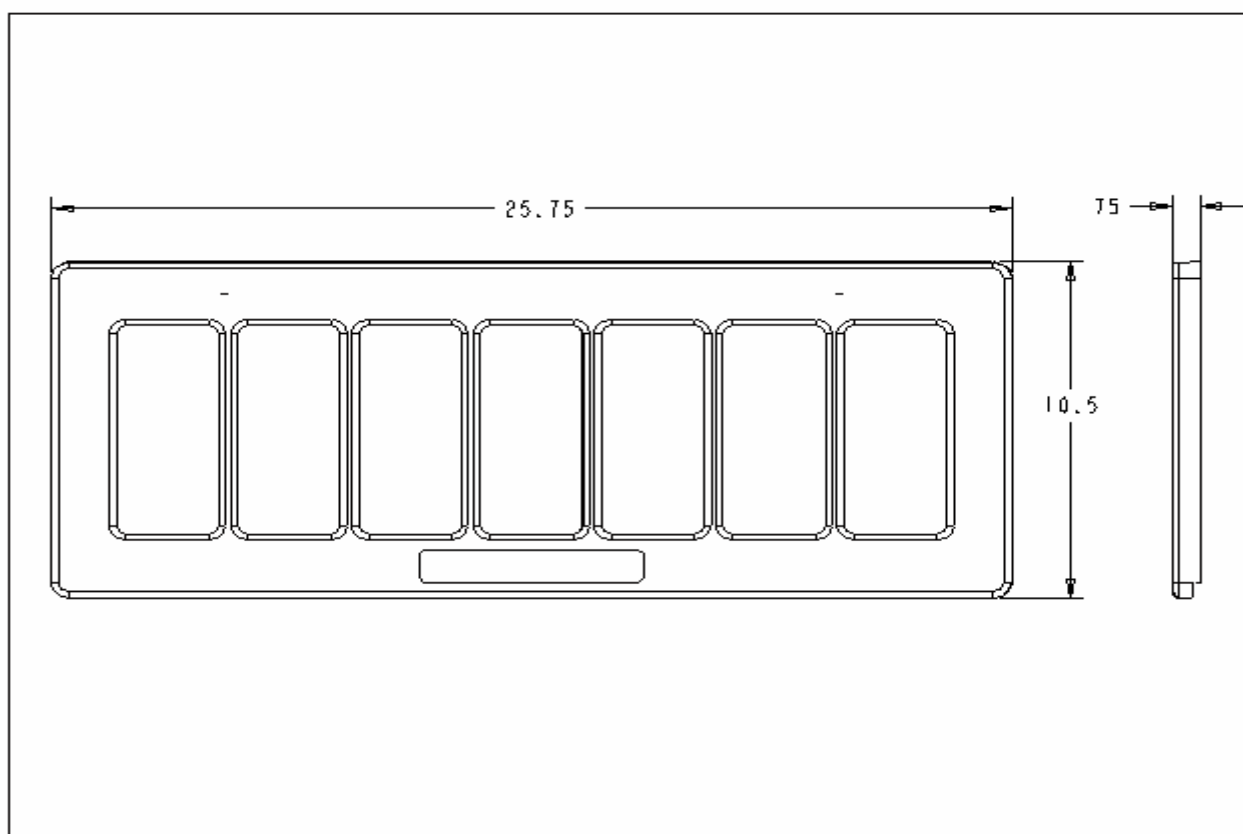

**Figure 5, 6-Module Back Box**
3.1.1.2 The second back box (Figure 5) is 23.875 inches long and will accommodate one Control Module and six other modules.